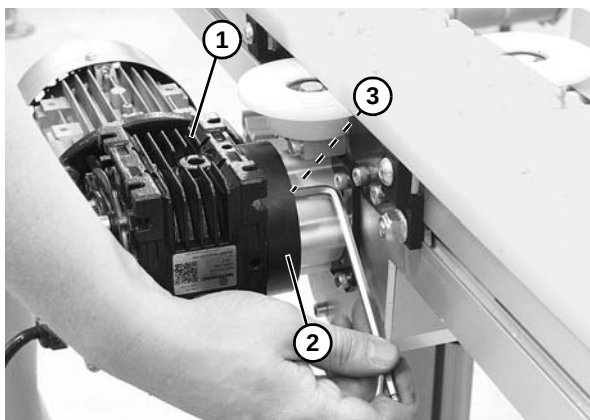

Figure 33
10. Install drive package (**Figure 33, item 1**) to drive motor mounting bracket (**Figure 33, item 2**) using four socket head screws (**Figure 33, item 3**).